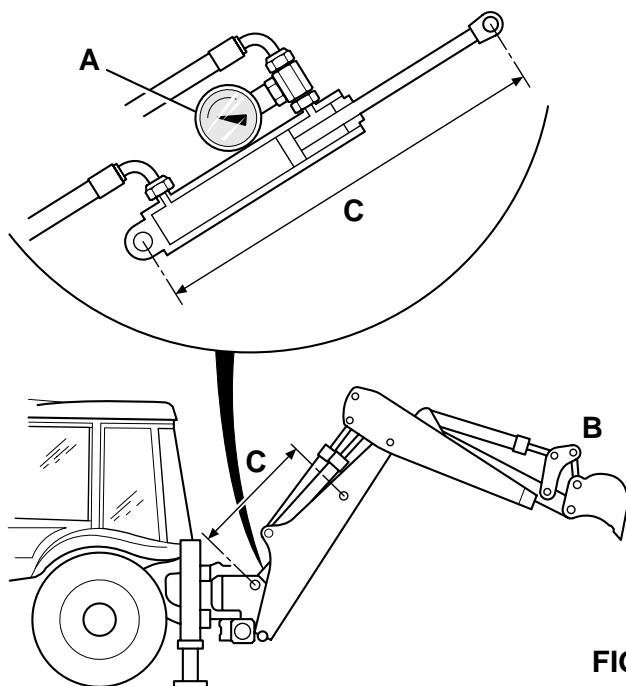

FIG 1
- 2 Fit an appropriate pressure gauge **A** to a tee-piece in the service hose which is pressurised when the ram in question is supported (Fig 1).